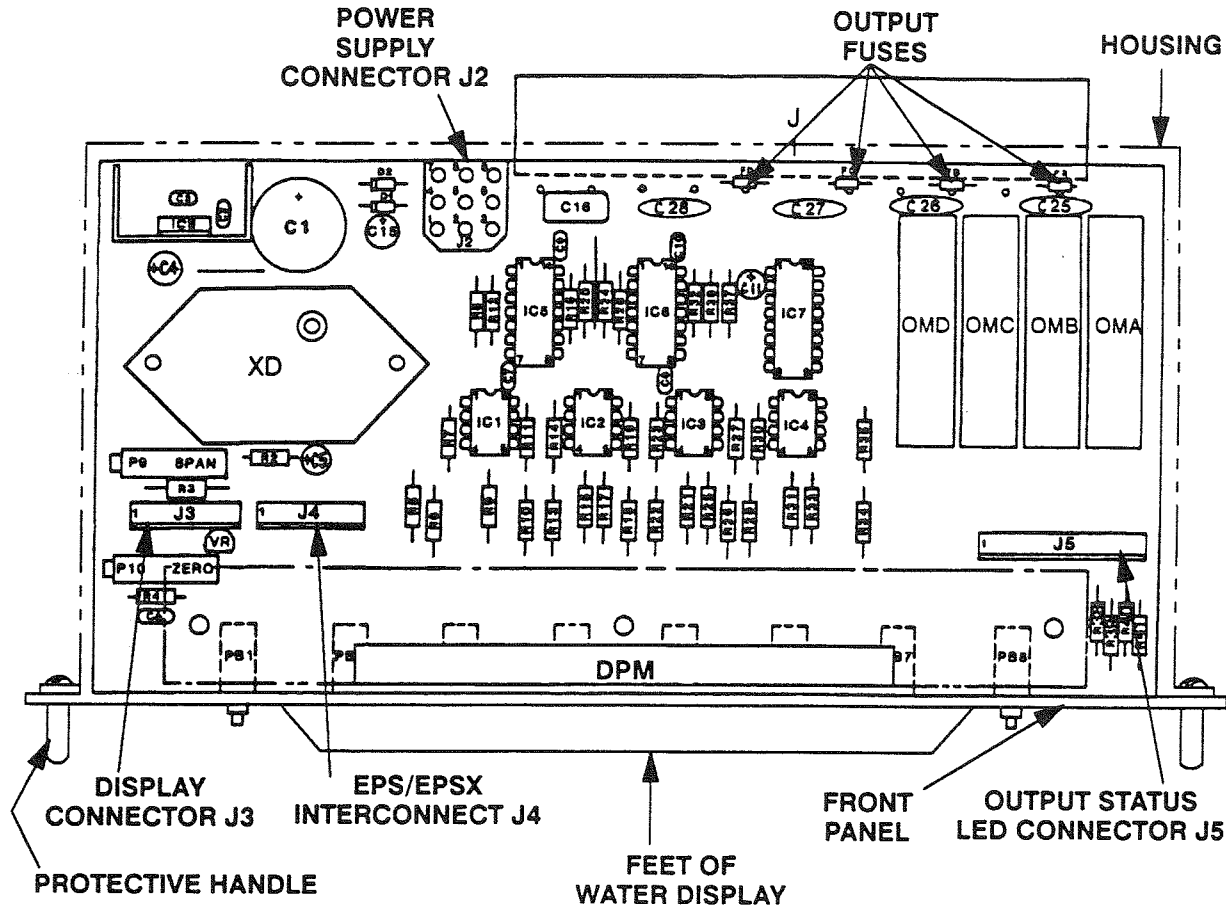

Figure D-2. Internal Inspection
- b. Check EPS output fuses FA, FB, FC, and FD. See Figure D-2. Use an ohmmeter and check continuity across each fuse. Correct the cause and replace any blown fuses. See Section E, **REPAIR**.
making certain they are properly seated. See Figure D-2. Do not wiggle connectors J3, J4, or J5 as the mating pins are easily bent.